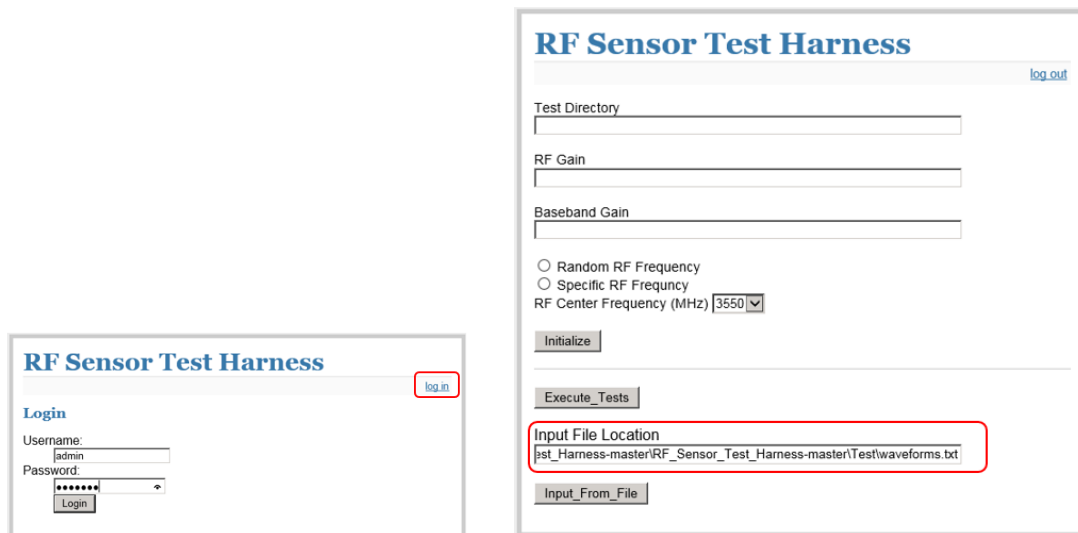

Figure 4: RF Sensor Test Harness user interface
- The RF Sensor Test Harness user interface (web browser) is already launched and will appear as shown in Figure 4.
- Enter the full path of the “waveforms.txt” file into the “Input File Location” field of the user interface and press “Input\_From\_File” to play the waveforms as shown in Figure 4.